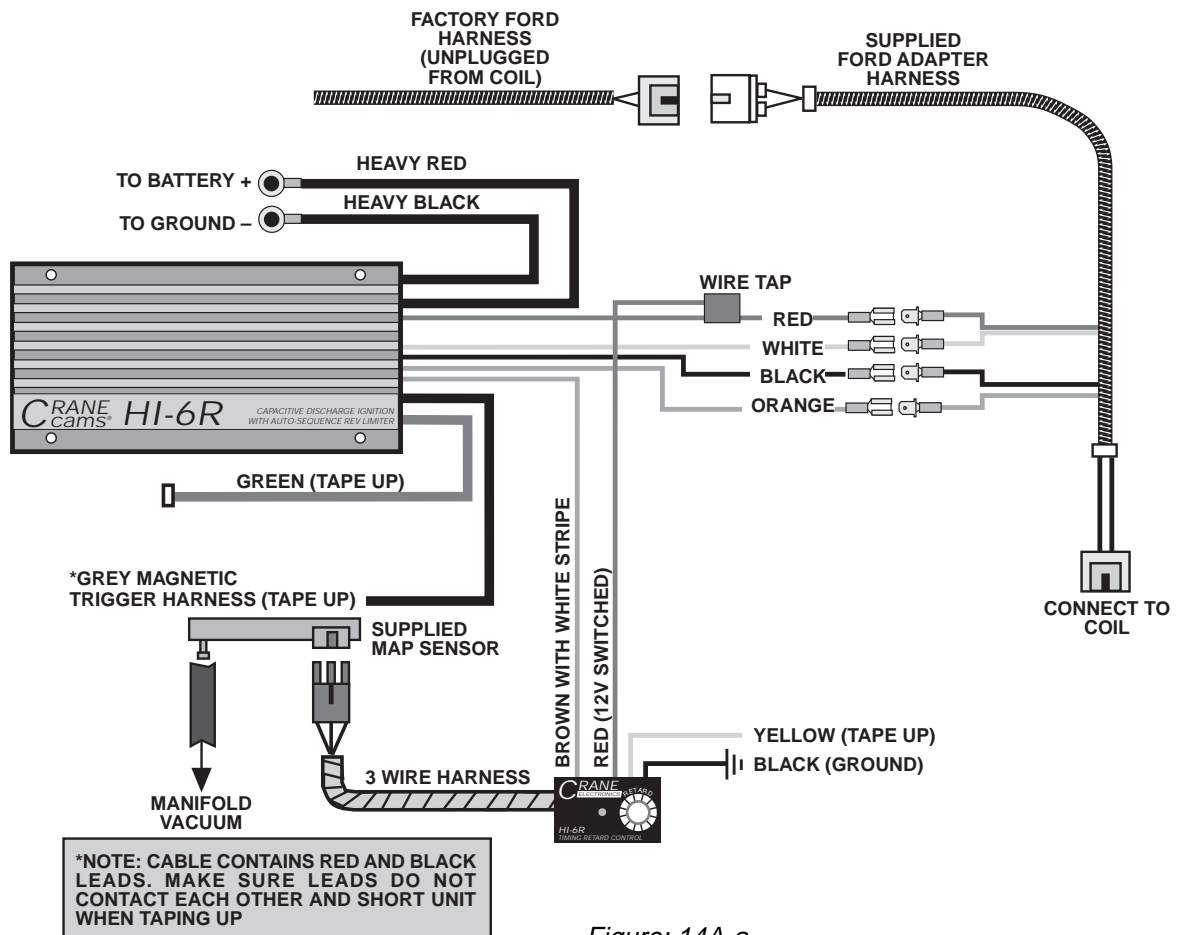

Figure: 14A-a
- C. Install the ignition/boost retard wiring harness following *Figure 14A-a*.